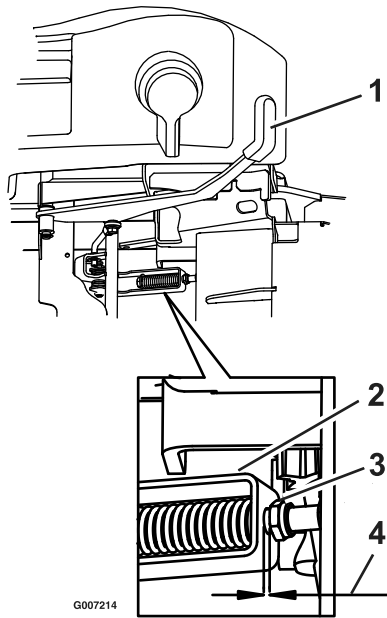

Figure 12
4. Locate the park brake spring assembly (see Figure 12). There should be a gap of 1/8 inch (3 mm) between the yoke and thin nyloc nut on the brake bolt. If necessary, rotate the thin nyloc nut to obtain the 1/8 inch gap.